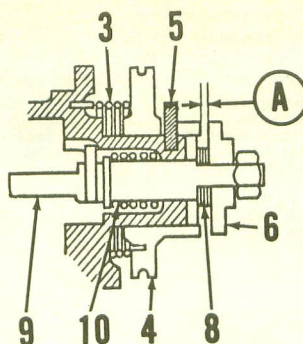

Fig. Y5-7—Clearance (A) should be 0.25-0.35MM and is adjusted by varying shims (8).
Check the minimum plunger stroke by turning starter plate (16—Fig. Y5-5) until clearance (A—Fig. Y5-7) between pulley and adjusting plate is at minimum. Clearance (A) should be 0.25-0.35MM (0.0098-0.0138 inch). If clearance is incorrect, add or deduct shims (8).